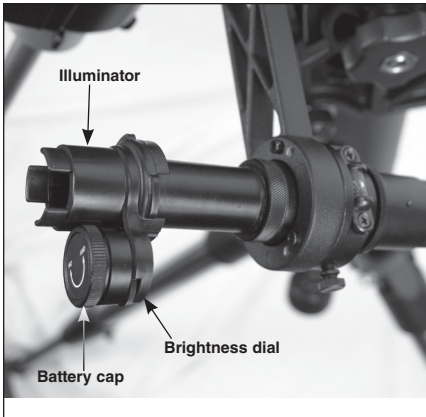

Figure 2. The illuminator fits on the front of the polar scope.
3. Attach the polar scope illuminator to the front of the polar scope (**Figure 2**).
The Illuminated Polar Scope comes with a CR2032 lithium button cell battery, which powers the red LED that lights up the reticle. To install the battery, unscrew the battery cover (**Figure 2**) and insert the battery with the positive (+) side facing up. Then screw the battery cover back on.